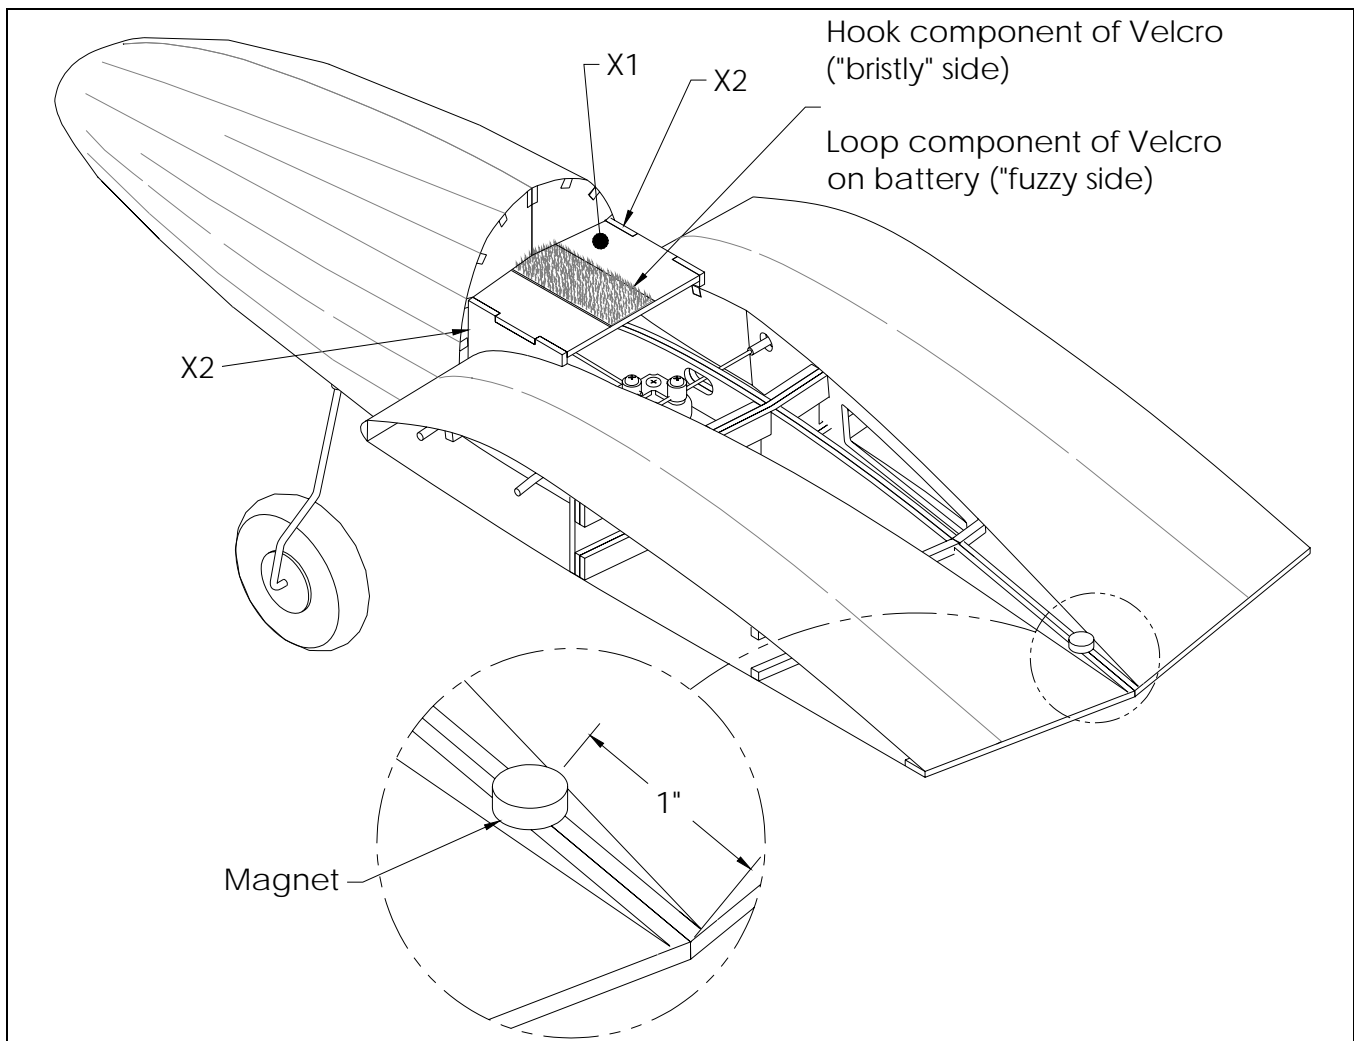

Figure 36
- ❑ Glue both **X2** components perpendicular to **X1** in the orientation illustrated in Figure 36. These parts create the battery tray.
- ❑ Glue some Velcro to the battery tray and battery pack as illustrated in Figure 36 with 5-minute epoxy.
- ❑ Glue a magnet to the center ribs **R1** as illustrated in Figure 36 with 5-minute epoxy. This magnet serves as one half the canopy latch.